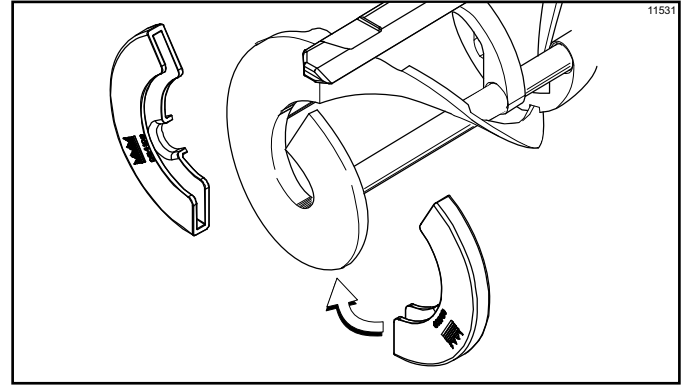

Figure 6-6
9. If the beater shoes are in good condition, install the beater shoes. (See Figure 6-6.)